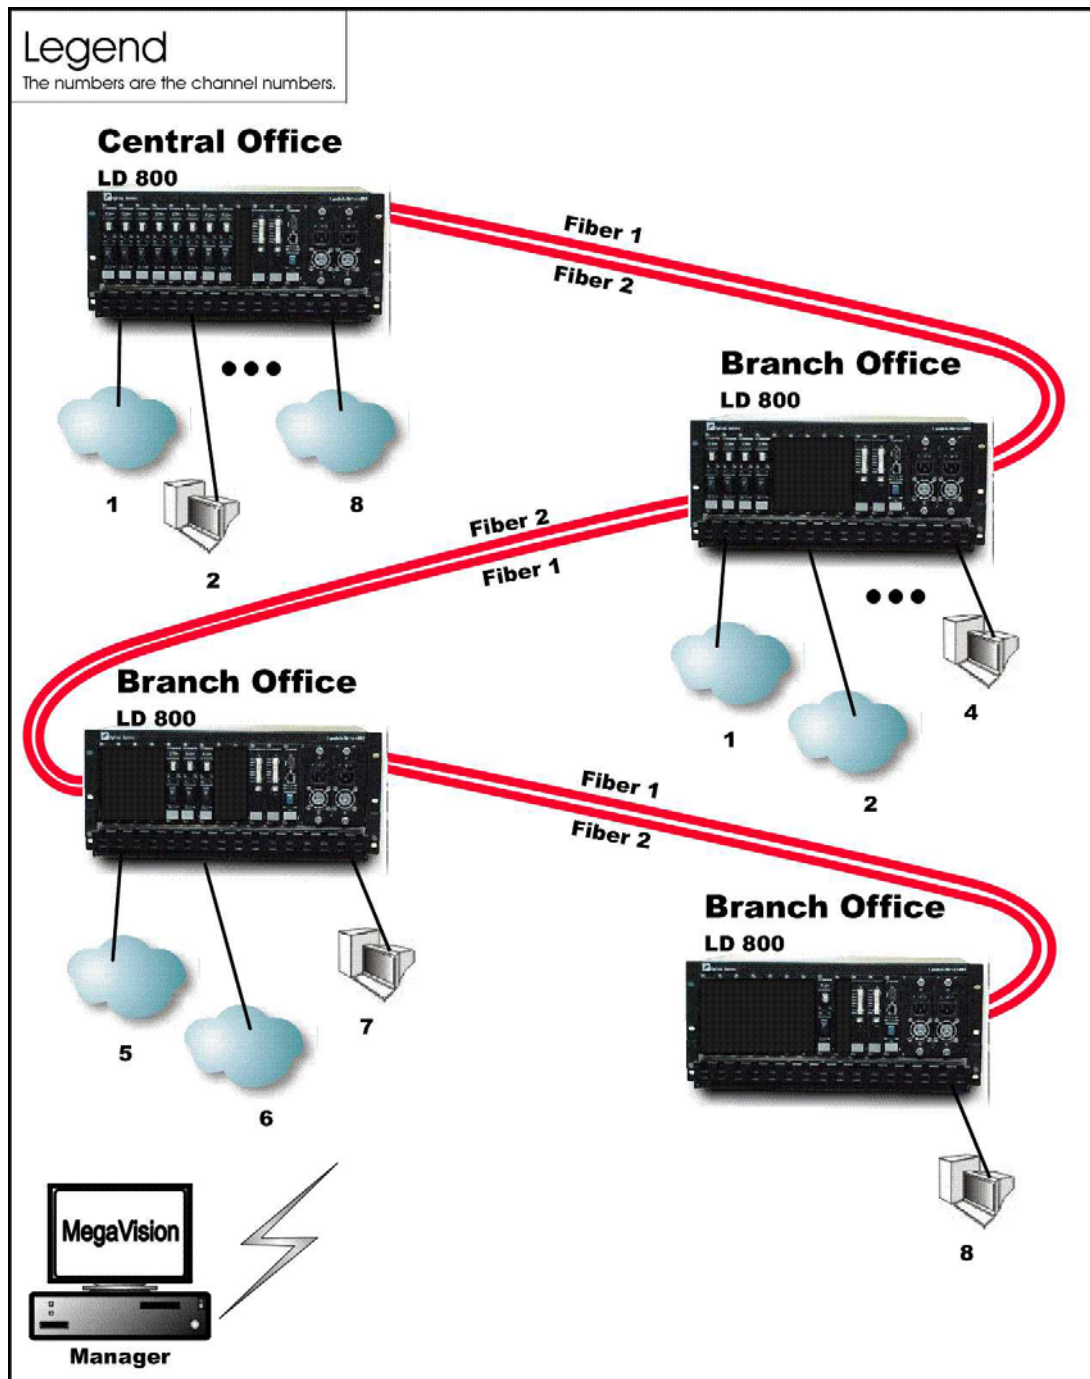

Figure 30: Multipoint with up to 8 Full-Duplex Channels
In Regular Multipoint topology (example shown in *Figure 30*), up to 8 channels can be created across the network. This means that up to 16 access-equipment units (e.g., LANs, PCs, etc.) can be interconnected with this network topology – two per channel. Note that all channels run from the Branch Office (BO) LDx00s to the Central Office (CO) LDx00, i.e., no channels exist between the BOs.